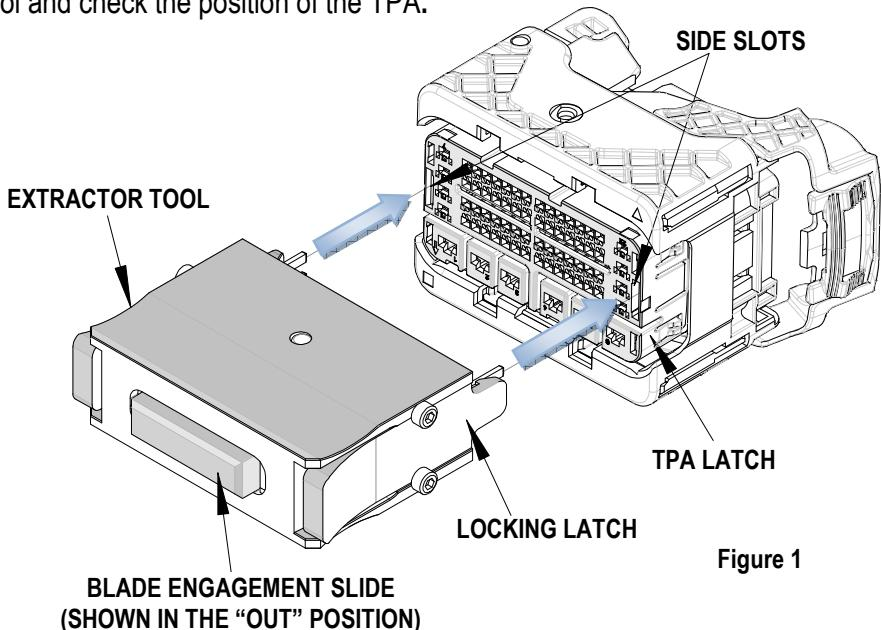

Figure 1
- Insert the tool into the (2) side slots of the (TPA) secondary lock on each sides until it stops. See Figure 1. The (2) two catch pivots on the sides of the tool will engage the TPA.